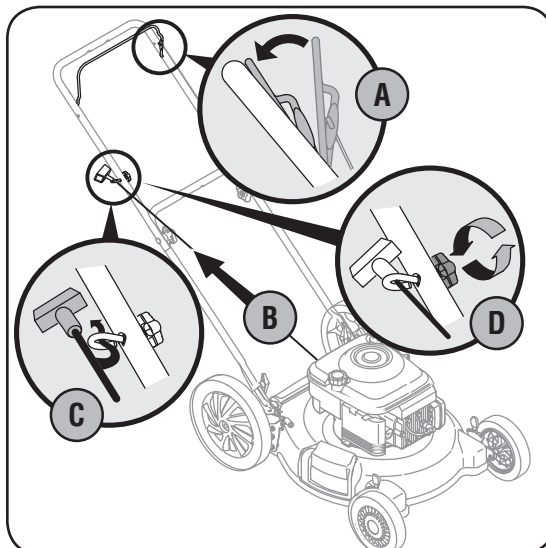

Figure 3
3. Rope guide Setup as follows, see Figure 3: